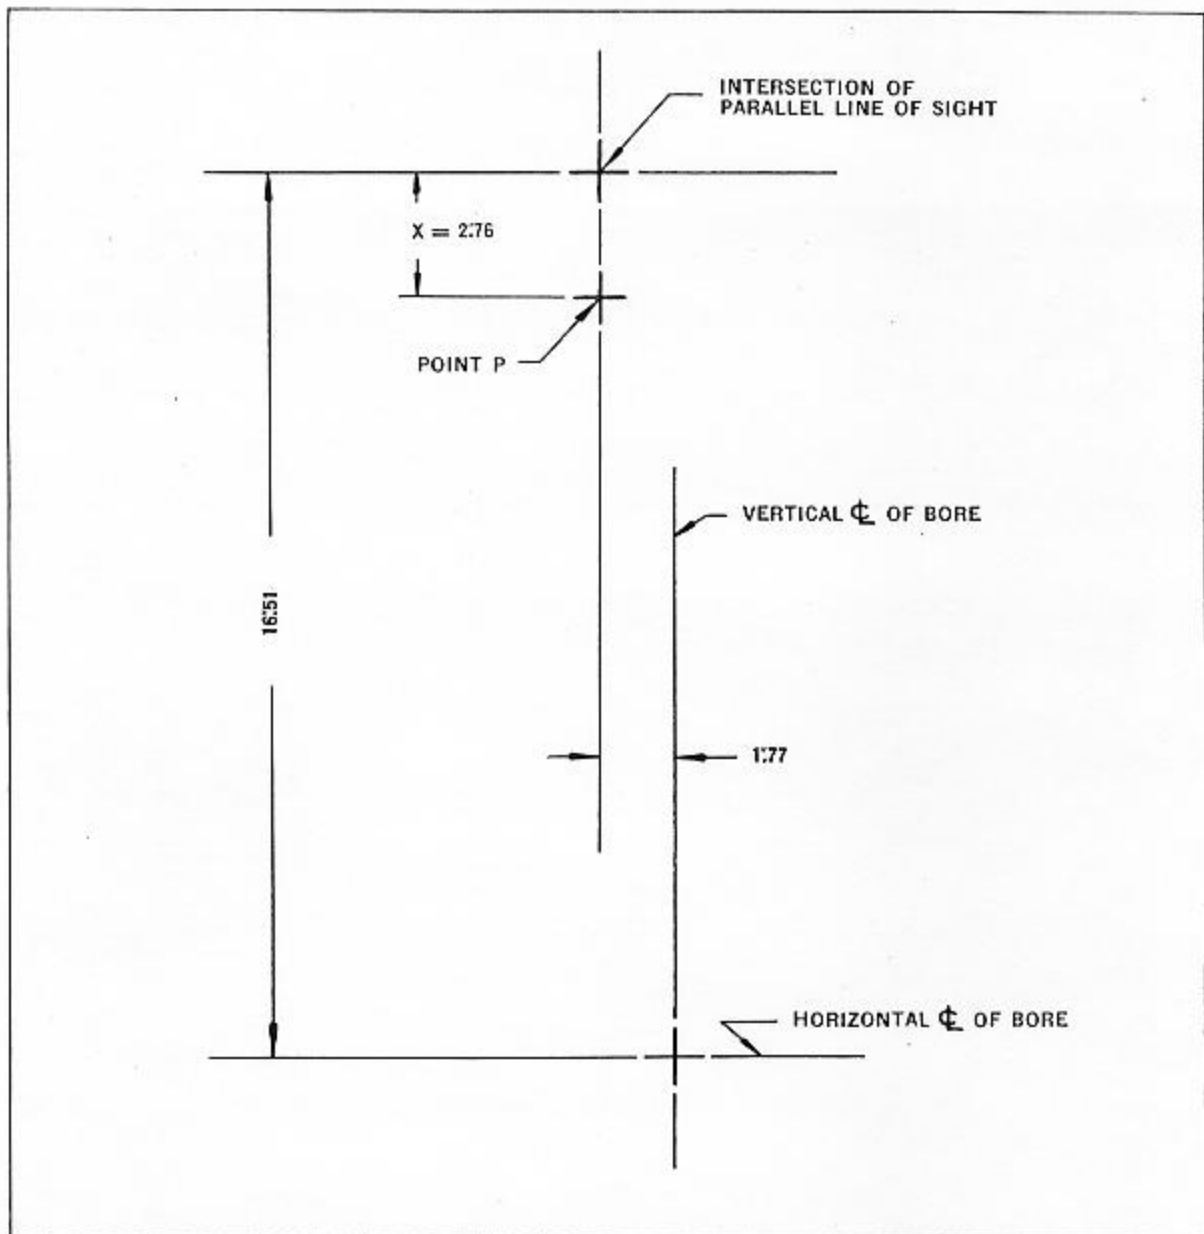

Figure 72—Bore Sight Target for 20 mm. Sight Mark 4 Mod. 1
The procedure outlined above will adjust the line of sight through the center of the rear sight and the center of the foresight to intersect the trajectory of the projectile at a horizontal range of approximately 750 yards. (This is true in the case of Sight Mark 2 when the adjustable rear sight is set to the "Normal" position). To set the line of sight so that it intersects the trajectory of the projectile at **any desired range and elevation**, the following formula can be used for locating a corresponding point, (P), Figure 72, on the bore sight target where the line of sight must intersect.
When the distance (X) has been determined from the above formula, mark point (P) on the batten as shown in Figure 72 (for the case of a Mark 4 Mod. 1 Sight). With the target set up and adjusted as outlined in paragraphs (4b), (4c), and (4d), loosen the clamping bolts, move the foresight up or down until the line of sight through the center of the rear sight and the center of the foresight intersects the mark point (P) on the batten and then tighten the clamping bolts. Note that in this case the center of the foresight is used and not the parallel bore sighting notch above the horizontal bar on the foresight of 20 mm. Sights Marks 4 and 4 Mod. 1. On the 20 mm. Sight Mark 2, the rear sight must be in the "Normal" position. The following example will serve to illustrate the method of setting the line of sight to intersect the trajectory of the projectile at any desired range and elevation.
- (b) Lay off on the batten the distance $X = 2''.76$ vertically downward from the mark indicating the point where the parallel line of sight intersects the batten. Mark the point (P) as indicated in Figure 72.
- (c) Set up the batten at a distance of 25 feet forward of the rear sight and adjust as outlined in paragraphs (4b), (4c) and (4d). Loosen the clamping bolts on the foresight and move the foresight vertically until the line of sight through the center of the rear sight and the center of the foresight intersects the batten at point (P). Tighten the clamping bolts. The line of sight is now adjusted to intersect the trajectory of the projectile at 1000 yards range and 45 degrees elevation.